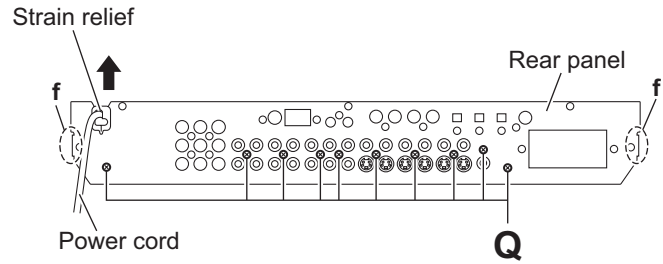

Fig.16
3.13 Removing the input board (See Figs.16 and 17)
- (1) From the back side of the main body, remove the strain relief attaching the power cord in the direction of the arrow. (See Fig.16.)
- (2) Remove the ten screws **Q** attaching the rear panel. (See Fig.16.)
- (3) Release the engagement sections **f** and remove the rear panel from the main body. (See Fig.16.)